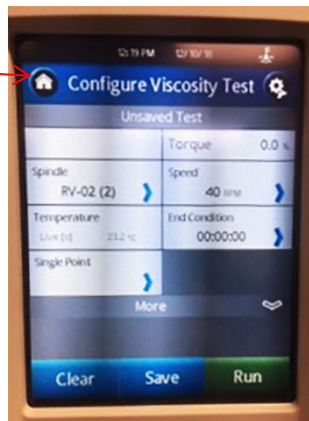

Figure 27: Configure User Test Screen
- Next, the **Configure User Test** screen appears. Press the **Home** button on the top left corner to access the Main Menu. Refer to Figure 27.